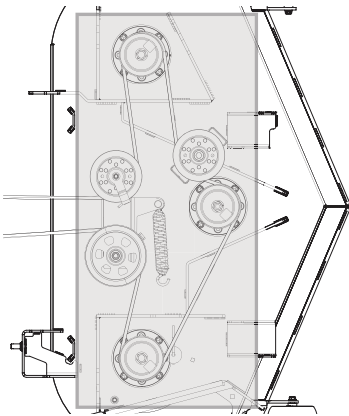

Figure 30
- Clean the top of the mower deck, under the spindle covers and belt area (Figure 30).